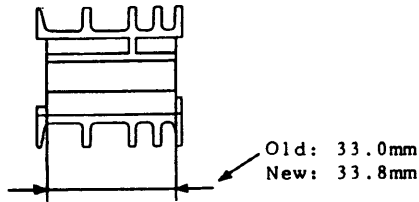

Fig. 1: Idler ring (cross section)
1. The inner diameter of the idler ring has been increased (figure 1).